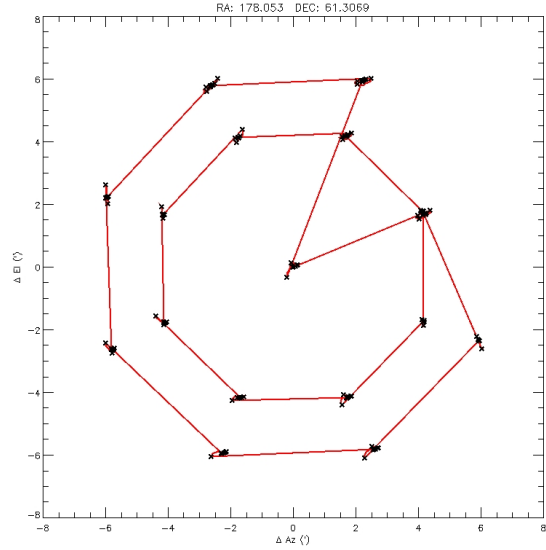

Figure D.2: The actual Z17() trajectory (red) on the sky generated by executing script D.7. Crosses mark timestamps of sampled data at each point.
**USAGE:** Script D.7 generates subscan points around G135.1+54.4 starting the first circle at the source's "right". A plot showing the actual trajectory on the sky when the script was executed is shown in figure D.2. Black crosses mark timestamps of data sampled along the red trajectory.